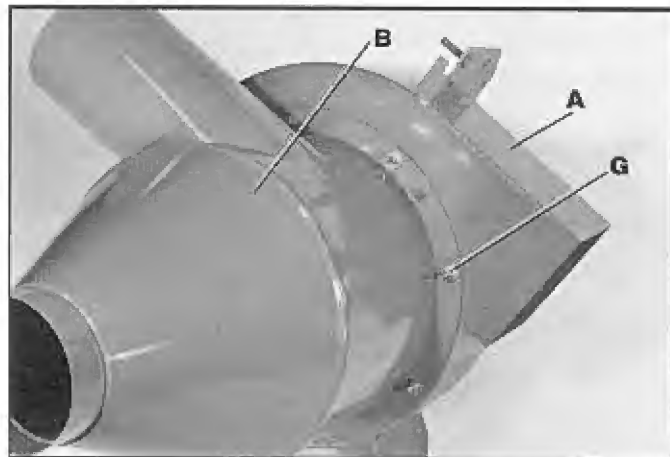

Fig. 8
4. Fasten cyclone separator (B) Fig. 8, to blower housing (A) with eight 3/8" flat washers, 3/8" lockwashers and hex nuts (G).